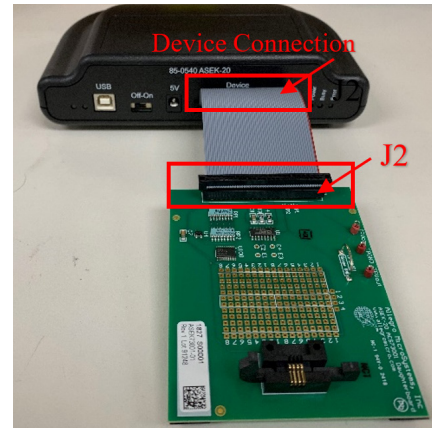

Figure 8: Connection between ASEK-20 and ASEK70310 Daughterboard
- Connect the other end of the ribbon cable to the “Device Connection” port on the ASEK-20 chassis as shown in Figure 8.